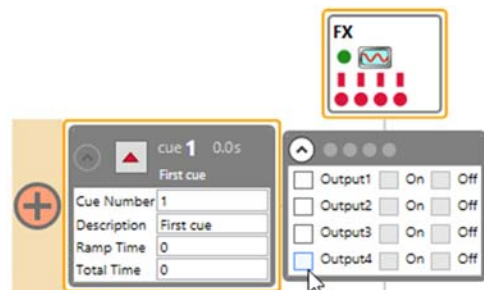

Figure 229
2. An FX movement will appear in the **Cue Grid** (Figure 229).